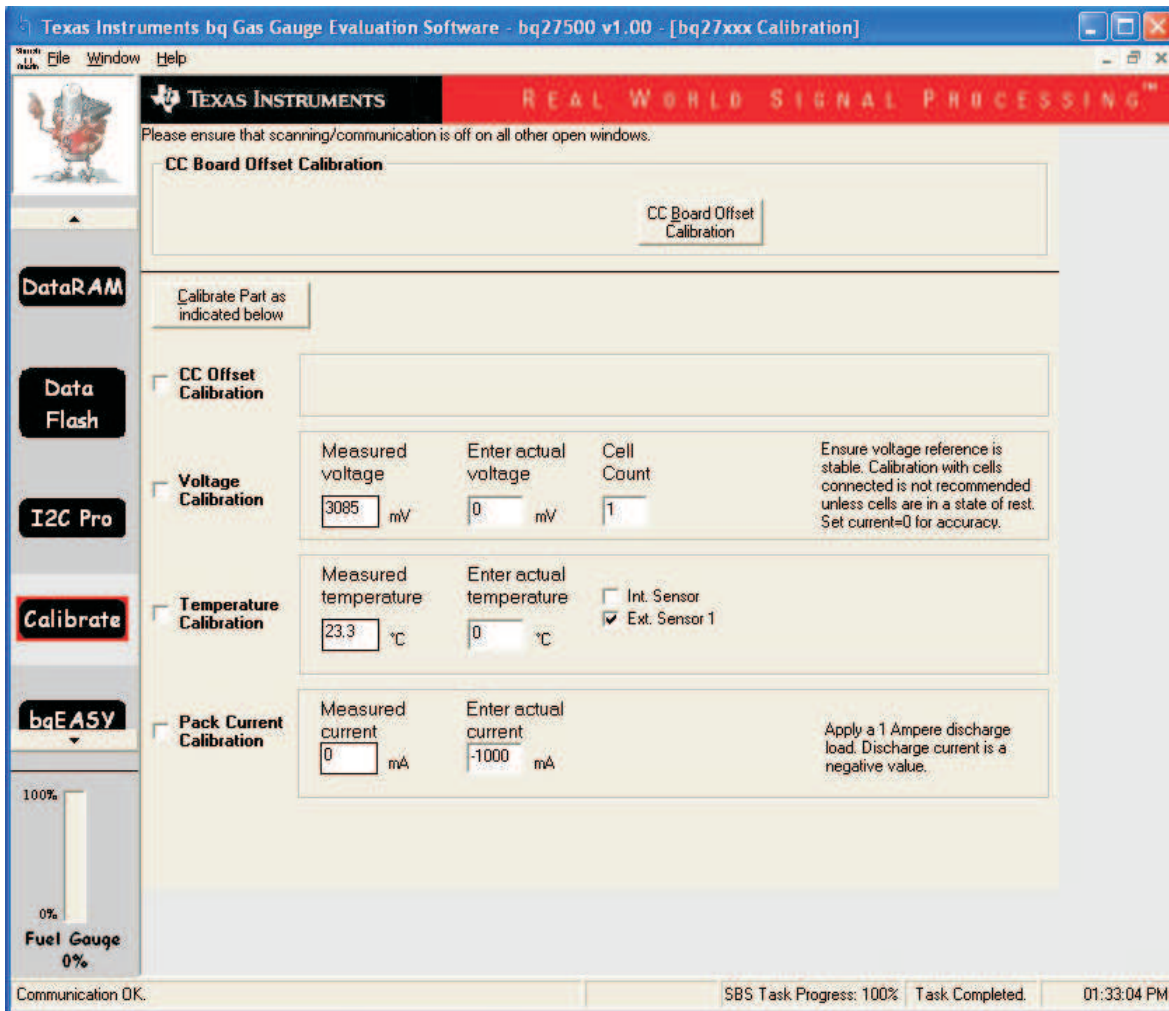

Figure 3. bq27500 EVSW Calibration Screen
**CC Offset Calibration**—Select the *CC Offset Calibration* checkbox. Then, click on the *Calibrate Part as indicated below* button (Figure 3), and wait for the EVSU to indicate that the calibration is completed. Read back the updated CC Offset data flash value by going to the Data Flash screen in EVSU and selecting the Calibration tab. Press the *Read All* button so that all the data is refreshed on the screen.